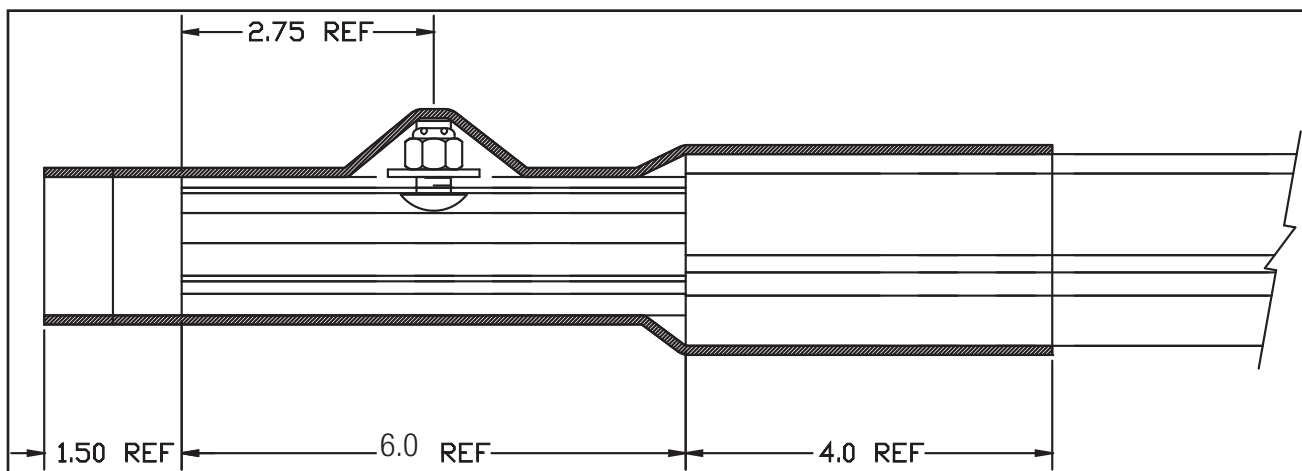

Figure 34-1 1500A Shown
- A reference drawing of a standard heat end cover is shown in **Figure 34-1**.